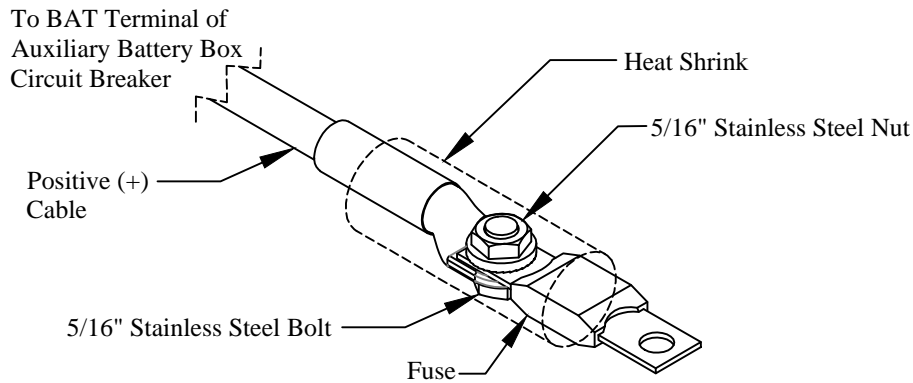

Figure 17: Fuse installation (truck applications).
**20. Connect** the appropriate fuse to the positive (+) cable using a 5/16 x 1/2" stainless steel hex bolt and nut (Figure 17).
**21. Apply** heat shrink over the fuse's bolted connection (Figure 17).